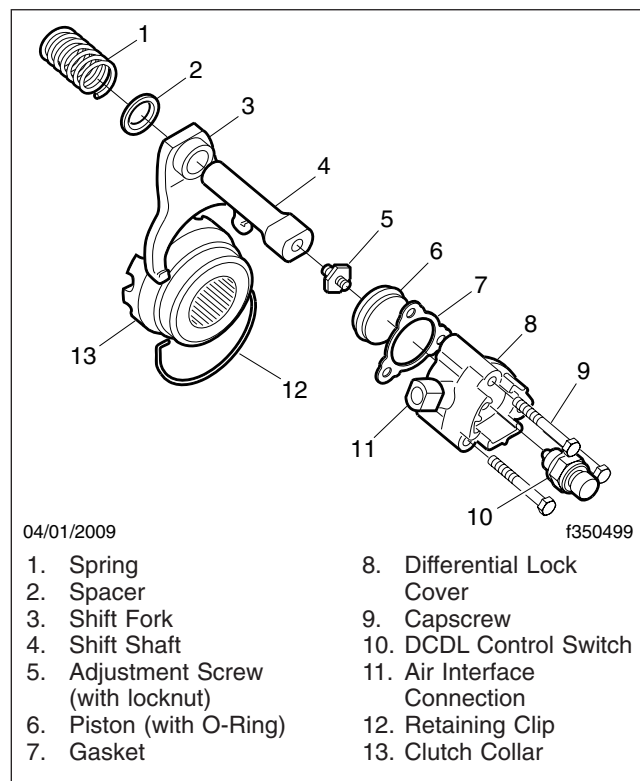

Fig. 1, DCDL Components, Model 2 Axles
Each part of the main differential lock is replaceable. See Fig. 1.
3. Remove the capscrews that attach the differential lock cover to the carrier housing. See Fig. 1.